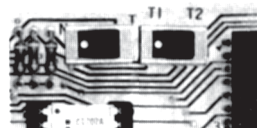

Figure 5-8. A8 Self Test Switch.
- c. Set the slide switch on A8 Sequential Control Board Assembly (P/N 04261-77108) to TEST 2 as shown in Figure 5-8.